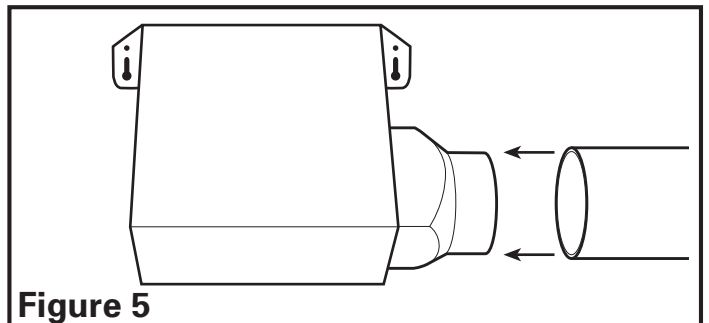

Figure 5
- Connect the ducting to the fan's duct collar (**Figure 5**). Secure in place using tape or screw clamp. Always duct the fan to the outside through a wall or roof cap.